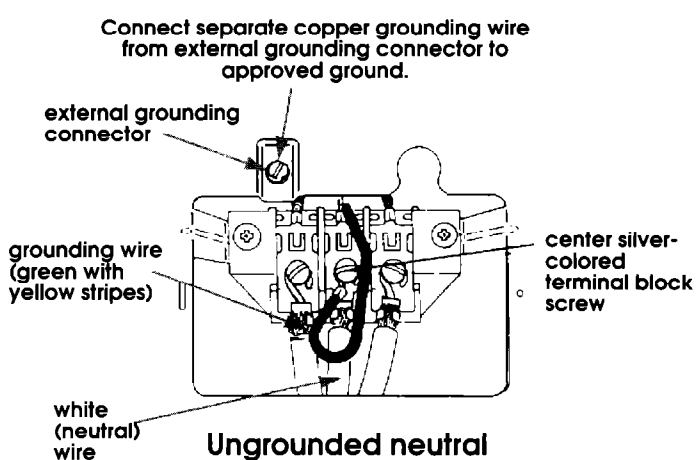

Figure 5
6. Connect the white (neutral) wire of the flexible armored or non-metallic sheathed copper power supply cable to the center, silver-colored terminal screw of the terminal block. Connect the other wires to the outer terminals. See Figure 5.